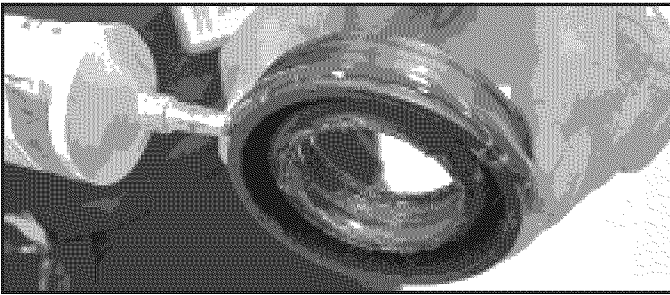

FIGURE 18
30. Apply the Pliobond Adhesive in a continuous bead around bottom of Tub Seal to enter tub first. Verify grease is inside the seal. See *Figure 18*.